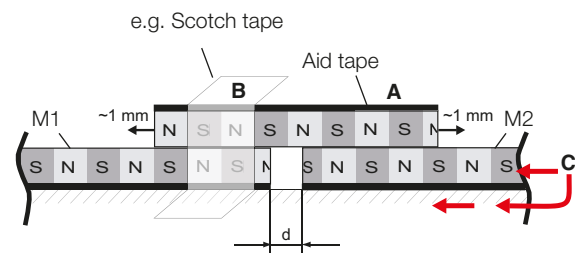

Fig. 4-9: Tape M2 to be attached, underneath the aid tape, d = 4–10 mm
3. Turn the aid tape around and place it on tape M1. The aid tape will be "engaged" by the magnetic forces from the opposite pole (Fig. 4-9).
4. Slide the beginning of the second tape M2 under the aid tape until it is near tape M1 and let it "engage" (Fig. 4-9). Leave enough distance (d), e.g. 4–10 mm.